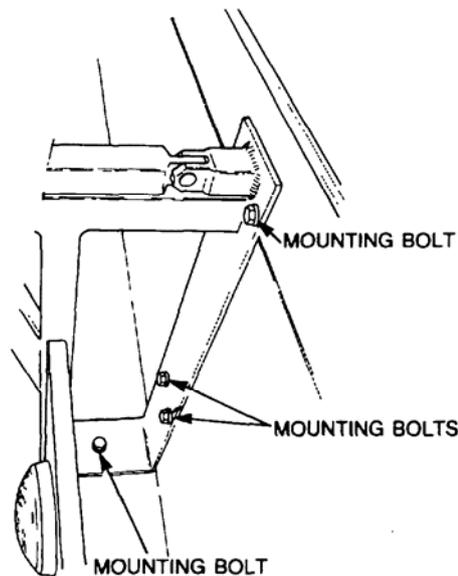

Figure 44 Litter Frame Removal
- j. Remove the fourteen bolts securing the litter frame to the module floor and wall (refer Figure 44).